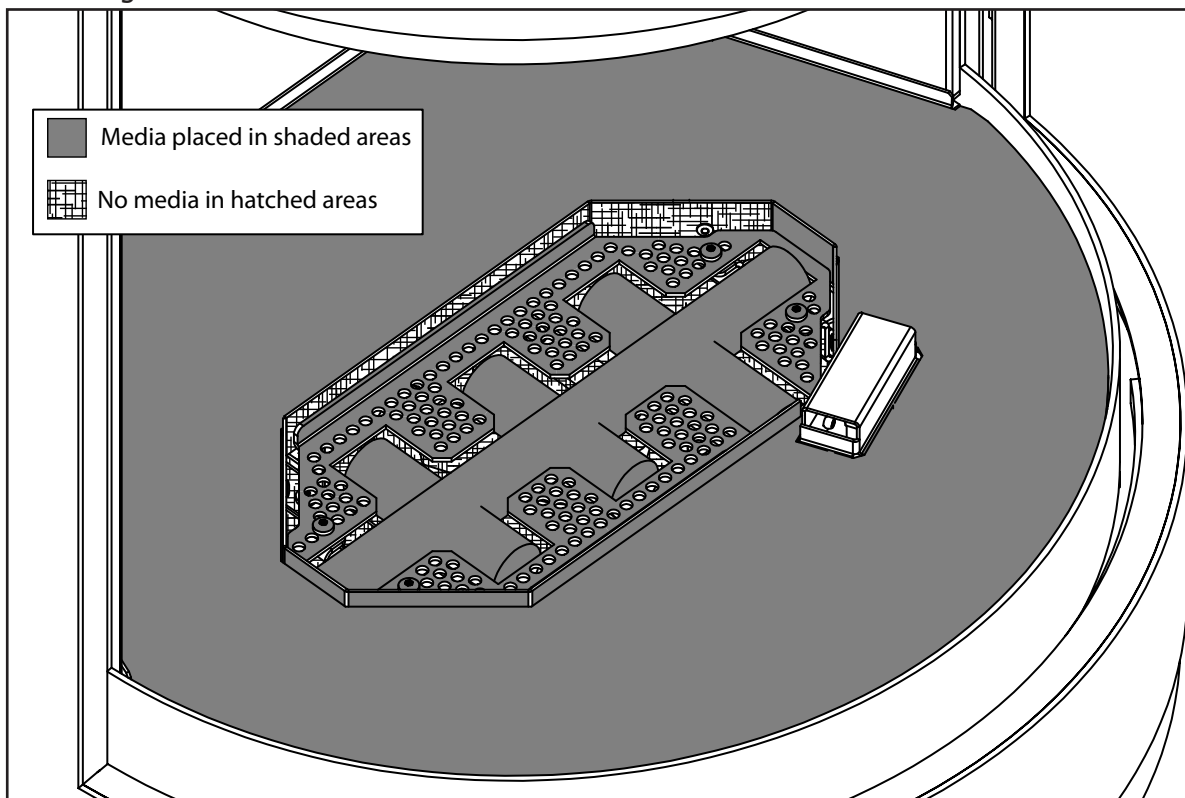

Figure 102: Media Installation Area
**\*Note:** Ensure that the areas highlighted in Figure 102 are not covered by media. These areas must be clear to allow the proper flow of air. Failure to do so will cause the fireplace to not burn properly.